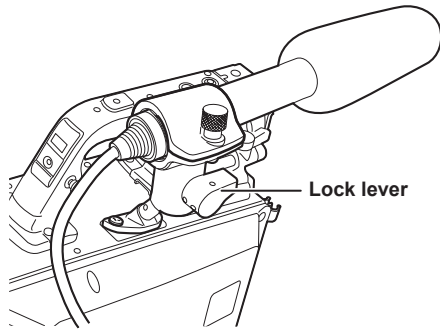

Fig. 3
- 3** Loosen the lock lever, adjust the angle of the microphone, and then tighten the lock lever. (Fig. 3)